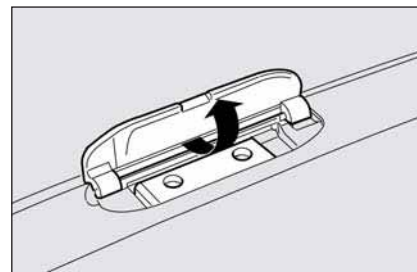

fig. 121
- for versions without sunroof: lift the tabs using the screwdriver provided in the kit to reach the fastening seats **fig. 121**;